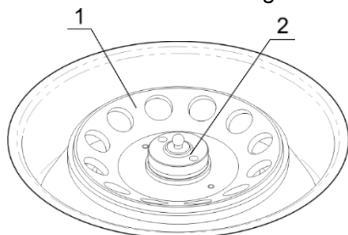

Figure 1. Installing the rotor
- Place the rotor (fig. 1/1) and secure it tightly with the fixation nut, placing the nut with the key holes up (fig. 1/2) and turning it clockwise by securing wrench.
- If the centrifuge is switched on, press the **Open** key (fig.1/1) and open the outer lid lifting it upwards with a hand.